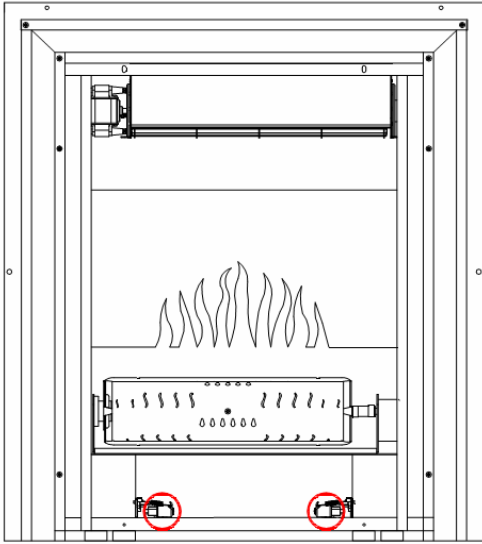

Figure 7
3. Reach inside and remove the spring clip. Pull out the old bulbs. (See Figure7)